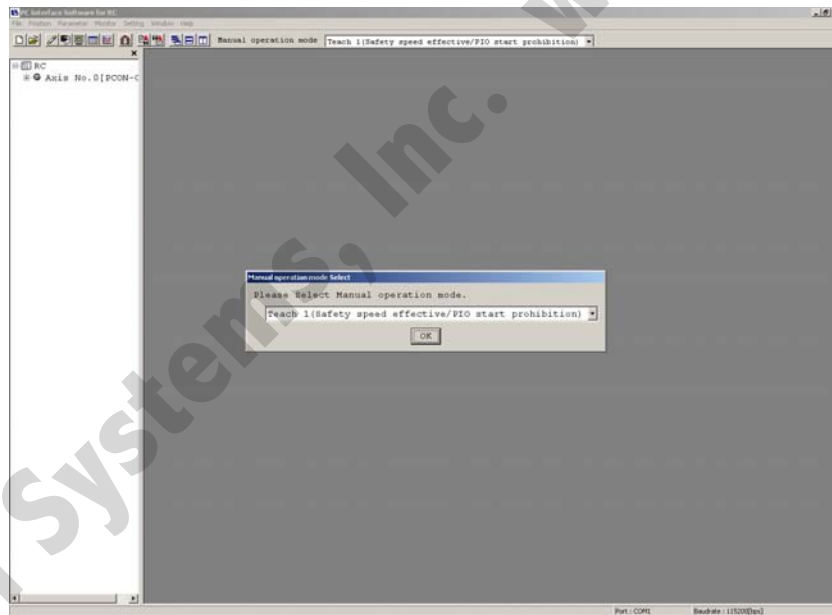

Fig. 1.30 Manual Operation Mode Select Window
- [5] When a check for the connected axis is completed, the main window is displayed, and at the same time, a window to select manual operation mode shown in Fig. 1.30 is displayed.